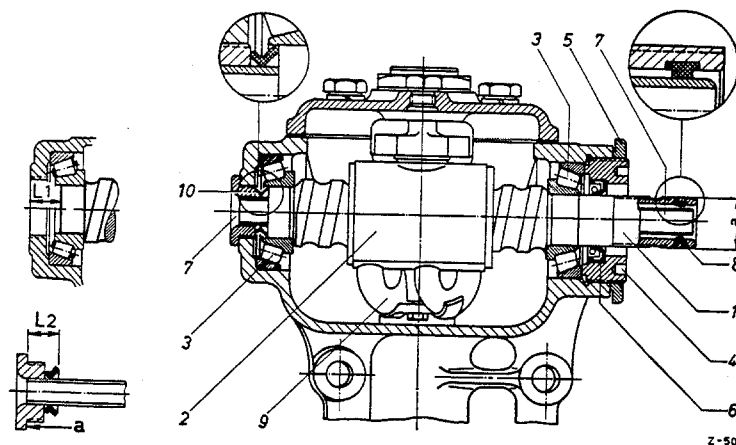

Fig. L 4/19
These steering assemblies are sealed with the sealing ring (10) at the bottom on the cable guide and the grease seal (6) in the adjusting ring (Fig. L 4/19).